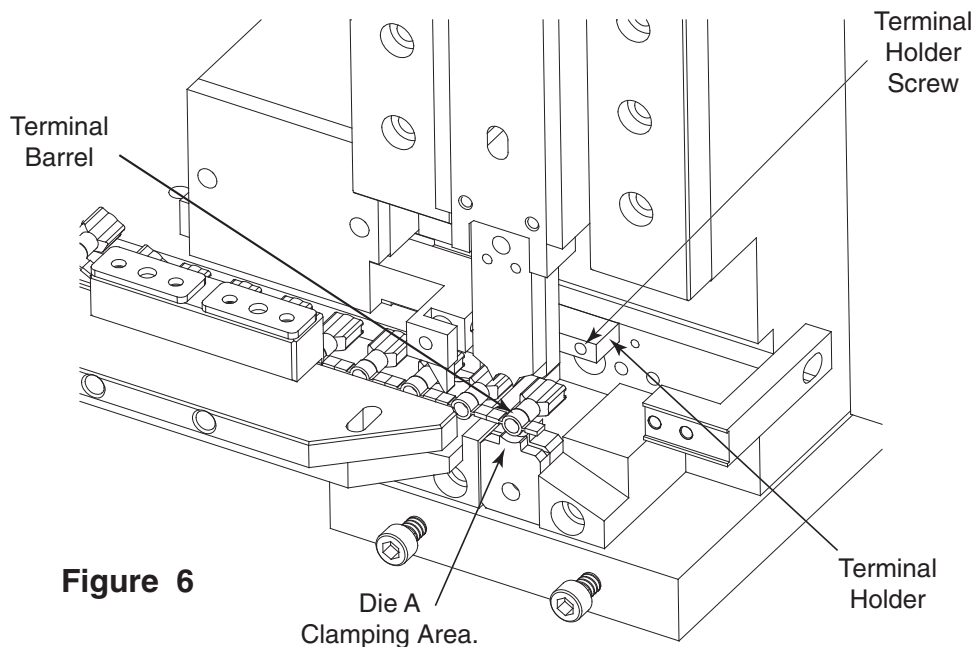

Figure 6
- 1) To move the terminal holder away from terminal, rotate screw on terminal holder (see Figure 6).
- 2) Position the terminal barrel in Die A's Crimping Area (see figure 6) forward or back, to desired position and adjust strip guide (if needed).